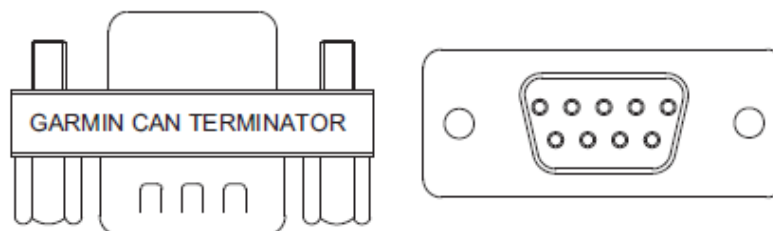
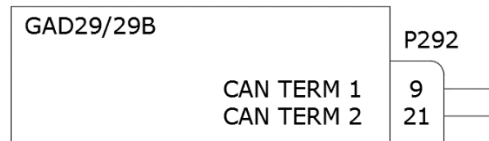

Figure 3-4 CAN Bus Termination (011-02887-00) for G5, GMU 11, and GAD 13
Figure 3-5 CAN Bus Termination for GAD 29/29B
- The G5, GMU 11, and GAD 13 connector kits provide a 9-pin termination adapter that provides termination when attached to the device’s main connector. The termination adapter contains a 120Ω resistor that is connected between pins 1 and 2 (Figure 3-4).
- The GAD 29/29B contains a 120Ω resistor inside the unit that provides termination when the two CAN TERM pins are connected together (Figure 3-5). Alternatively, the GAD 29/29B can be terminated externally using a termination adapter, Garmin P/N 011-02887-00 (Figure 3-4).